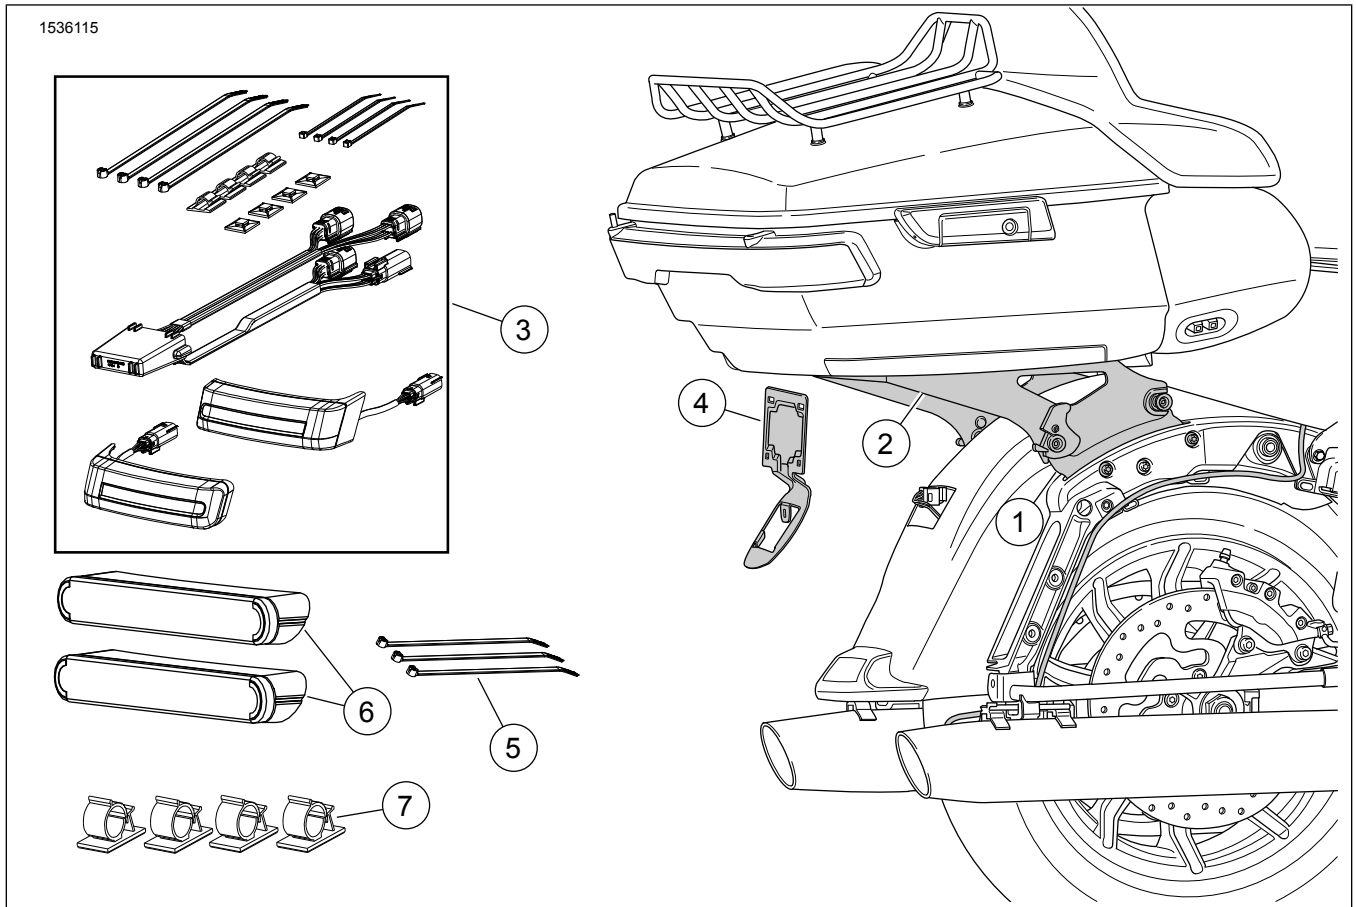
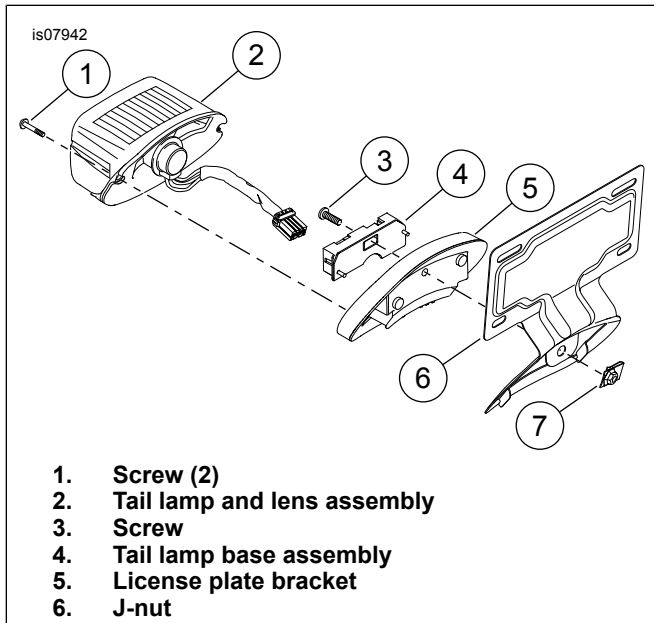

Figure 1. Kit Contents: Detachable Tour-Pak Mounting Rack
Figure 7. Install License Plate Bracket
7. See Figure 7. Remove tail lamp and tail lamp base.
- a. Remove screws (1).
- b. Disconnect and remove tail lamp and lens assembly (2).
- c. Note connector locations at tail lamp base (4) to ease installation.
- e. Remove screw (3) and tail lamp base.
1. See Figure 1. Install the Docking Hardware Kit (1) per instructions in **that** kit.
2. Install LED Saddlebag Run/Brake/Turn Lamp Kit (3) per instructions in **that** kit.
3. See Figure 7. Install license plate bracket.
- a. Install license plate bracket (5) in fender.
- c. Install tail lamp base over license plate bracket. Secure with screw (3).
- e. Connect tail lamp and lens assembly to tail lamp base. Install tail lamp and lens assembly to base and secure with screws (1).
See Figure 1. Mark reflector (12) location.